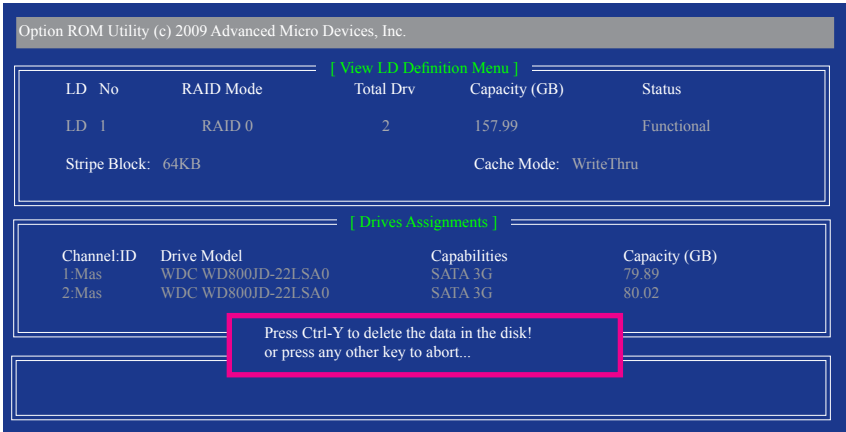

Figure 9
- 2. The **View LD Definition Menu** will appear (as shown in Figure 9) showing which drives are assigned to this array. Press <Ctrl>+<Y> if you are sure to delete the array or other keys to abort.